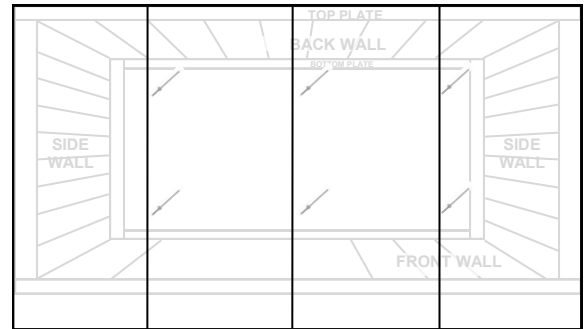

fig.1
- Check that the Bottom Plate is straight then nail the wall sheets to the Bottom Plate, two clouts per pan (see fig. 1).
- Rivet sheets together at overlaps with 2 x rivets per join (**fig.1**).